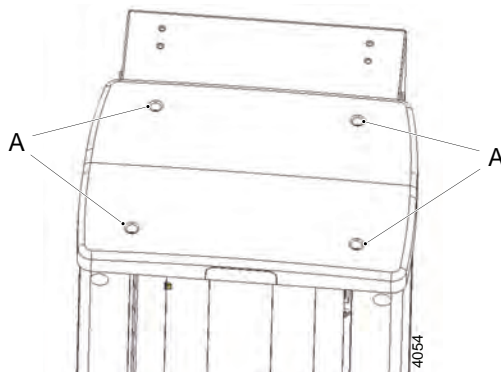

Fig. 4-167 Remove cover
16. Attach the plastic top cover and tighten the 4 screws (A) see Fig. 4-167 *Remove cover*.